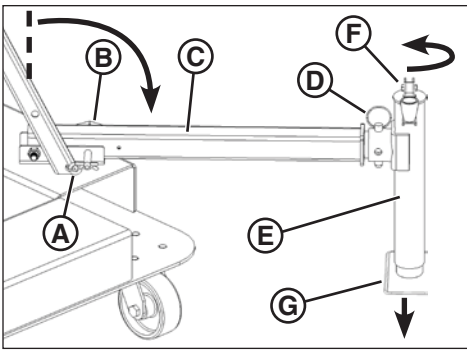

Figure 7
1. Remove the hair pin cotter (A, Figure 7) and outrigger locking pin (B).
2. Lower the outrigger (C, Figure 7) into the operating position as shown, and lock in the operating position with the outrigger locking pin. Secure the outrigger locking pin with the hair pin cotter.
3. Remove the stabilizer jack locking pin (D, Figure 7). Rotate the jack into the operating position (E). Install the stabilizer jack locking pin fully through the top and bottom holes in the jack and outrigger.
4. Unfold the handle (F, Figure 7) of the stabilizer jack. Turn the handle counter-clockwise to lower the jack foot (G) firmly onto the work site surface.